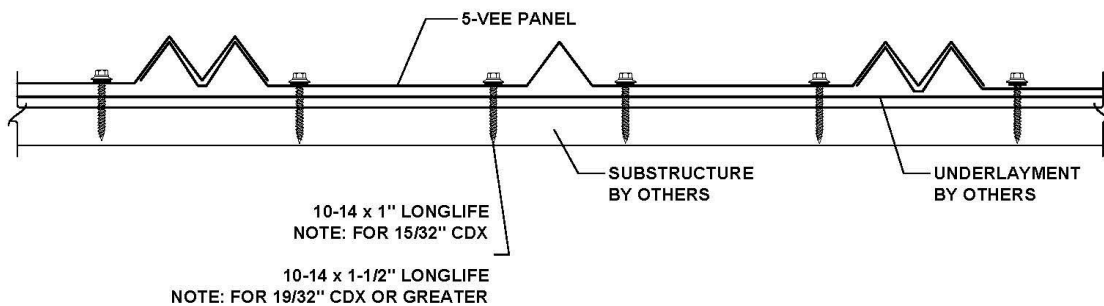

Figure 1: Fastening Pattern
**Panels:** The 5-VEE roof panels must be secured to the plywood deck in accordance with Table 1 with minimum #10-14 x 1-1/2" Kwikseal Woodbinder screws, manufactured by Sealtite. If the panels are laid directly over an existing roof covering, then minimum #10-14 x 2" Kwikseal Woodbinder screws, manufactured by Sealtite, are required. Refer to Figure 1 for an illustration of the fastening pattern. The fasteners must be long enough to penetrate completely through the wood structural panels with a minimum exposure of 1/4" below the underside of the wood structural panels.